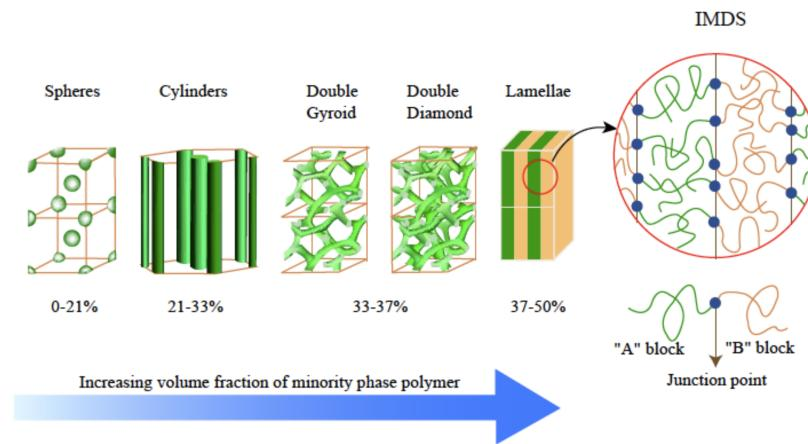

Figure 2.15: Microphase morphologies in diblock copolymers.
- In contrast to Figure 2.15, 40-60% gets you a lamellar state. This accounts for the fact that going on either side of 50% is equivalent.